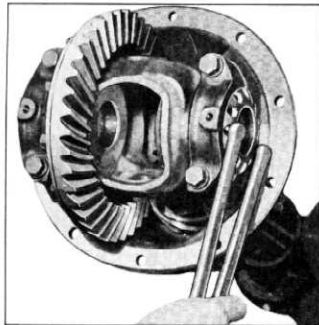

Fig. 17—Adjusting Ring Gear and Pinion
3. Tighten right hand nut a minimum of one additional notch to maximum of two notches further to a locking position (fig. 17). This operation preloads the differential bearings.